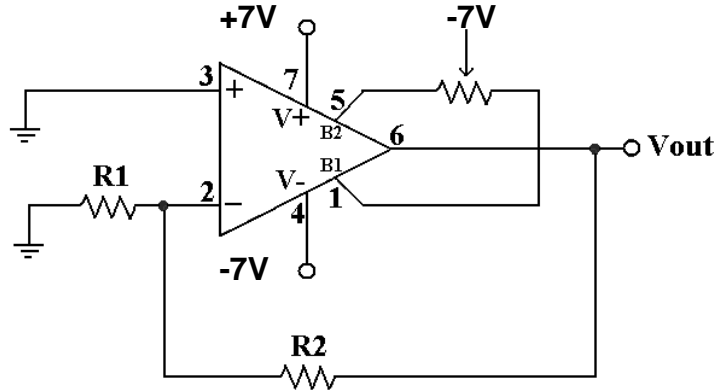

Fig. 6. Elimination of offset voltage
3. To minimize the offset voltage, **turn off the power supply first** and connect a  $20k\Omega$  potentiometer (pot) to pins 1 and 5 as shown in Fig. 6. **Be sure to connect the center tap of the pot to the  $-7V$  supply**. Reapply the power supply and use the pot to zero the Opamp's output. This is how offset voltage is compensated.